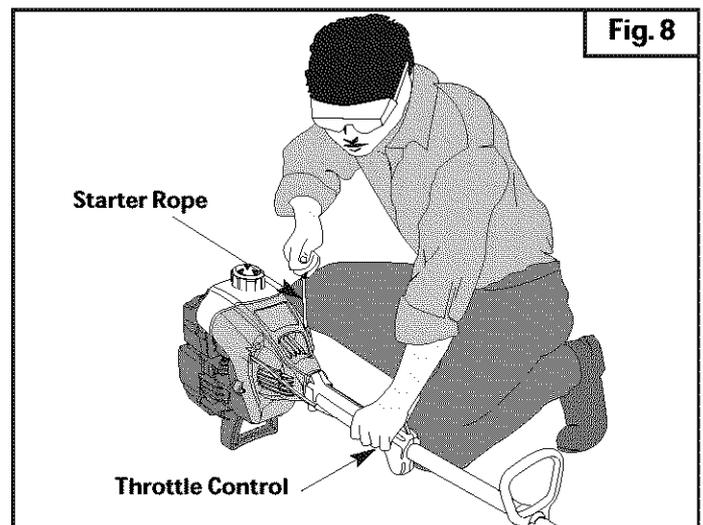

Fig. 8
WARNING: Avoid accidental starting. Make sure you are in the starting position when pulling the starter rope (Fig. 8). To avoid serious injury, both the operator and unit must be in a stable position while starting.
5. With the unit in the starting position (Fig. 8), squeeze the throttle control to the wide open (full throttle) position. Pull the starter rope briskly 5 times in the **FULL** choke (A)  position. If the engine attempts to run before the fifth pull, proceed to step 6.
7. Pull starter rope briskly 1 to 3 times to start the engine (Fig. 8).
1. Release your hand from the throttle control (Fig. 8). Allow the engine to cool down by idling.